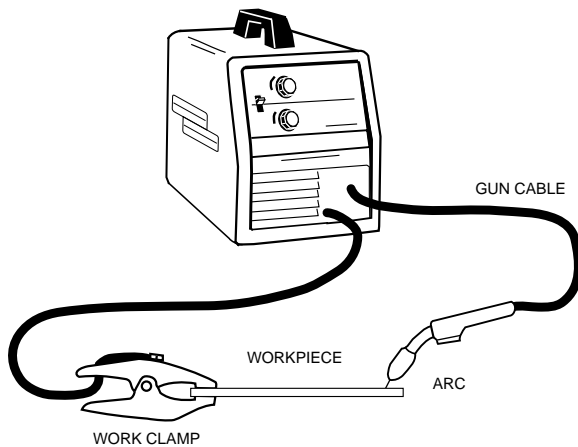

Figure B.7
6. Refer to Figure B.7. Connect work clamp to metal to be welded. Work clamp must make good electrical contact to the workpiece. The workpiece must also be grounded as stated in "Arc Welding Safety Precautions" in the beginning of this manual.